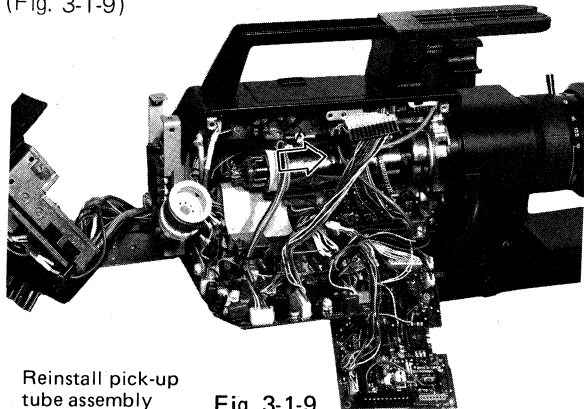

Fig. 3-1-9
- Reinstall the pick-up tube assembly into the chassis. (Fig. 3-1-9)